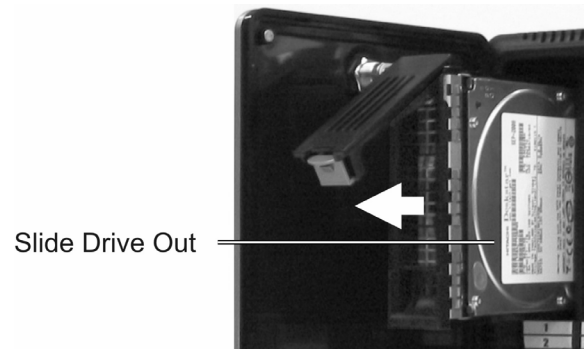

Figure: 4
4. Lift the hard drive lever 45 degrees to disconnect the hard drive from the internal connector (see Figure 4).